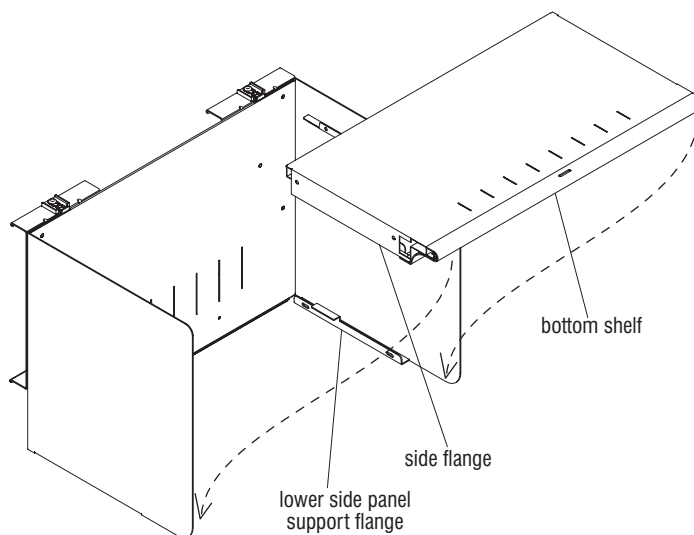

Figure 2
2. Set the bottom shelf into position by locating the side flanges of the bottom shelf over the lower support flanges of the side panels (Figure 2).